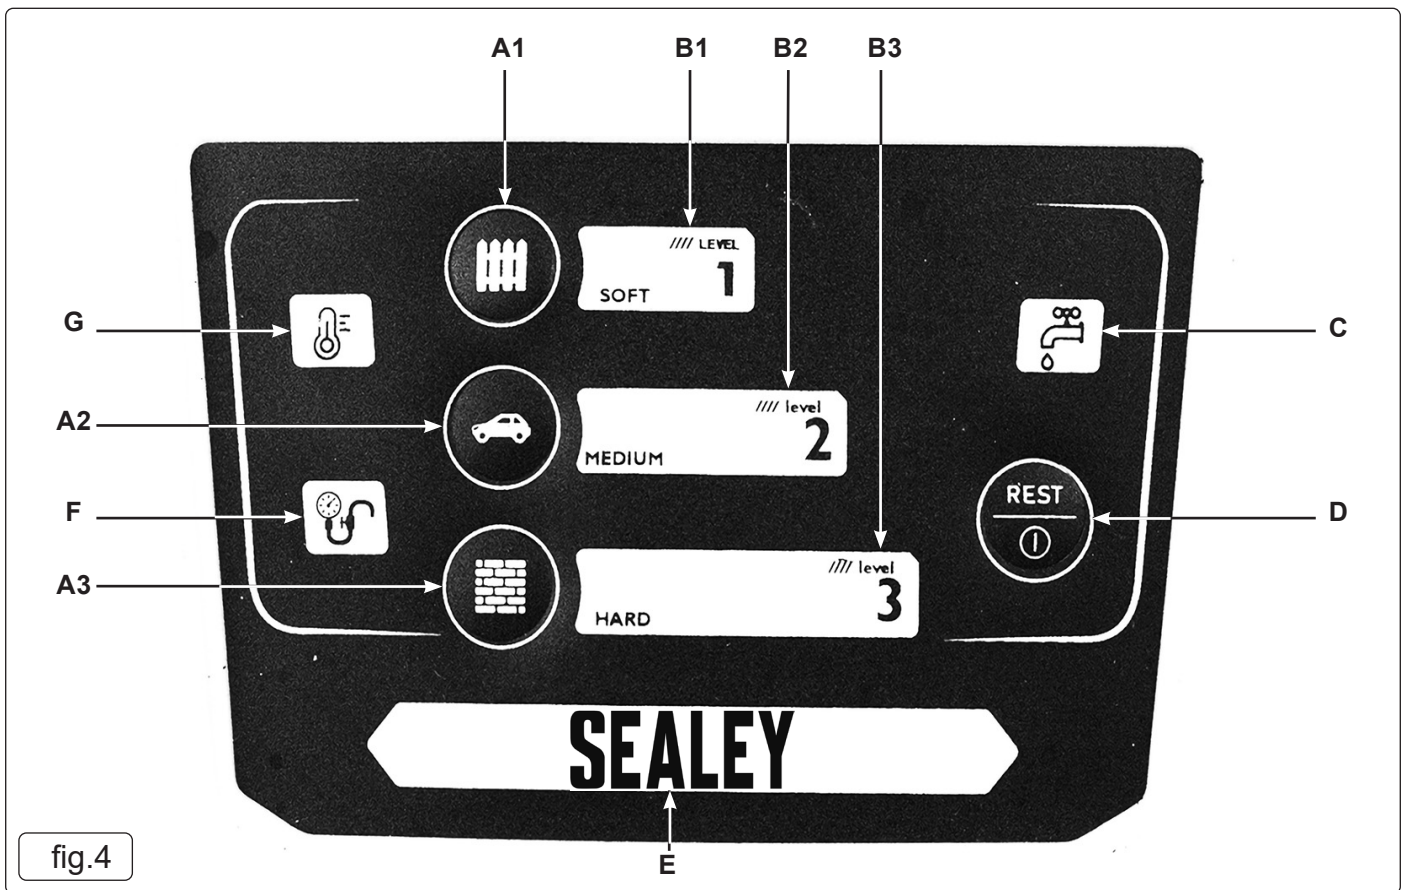

fig.4
- 5.7.1. To enter pairing, depress and hold Level 1 and Level 3 buttons (fig.4) for 2 seconds. The indicator light (fig.4.E) will flash. To exit pairing, depress and hold the Level 1 button for 2 seconds.
6.4.1. There are three levels of pressure settings (fig.4). Level 1 is the setting suitable for cleaning fences, cement terraces etc. Level 2 setting is suitable for cleaning vehicles, boats, motorcycles etc. Level 3 setting is suitable for cleaning barbecue grills, garden tools etc. **NOTE:** The default level at start up is Level 2.